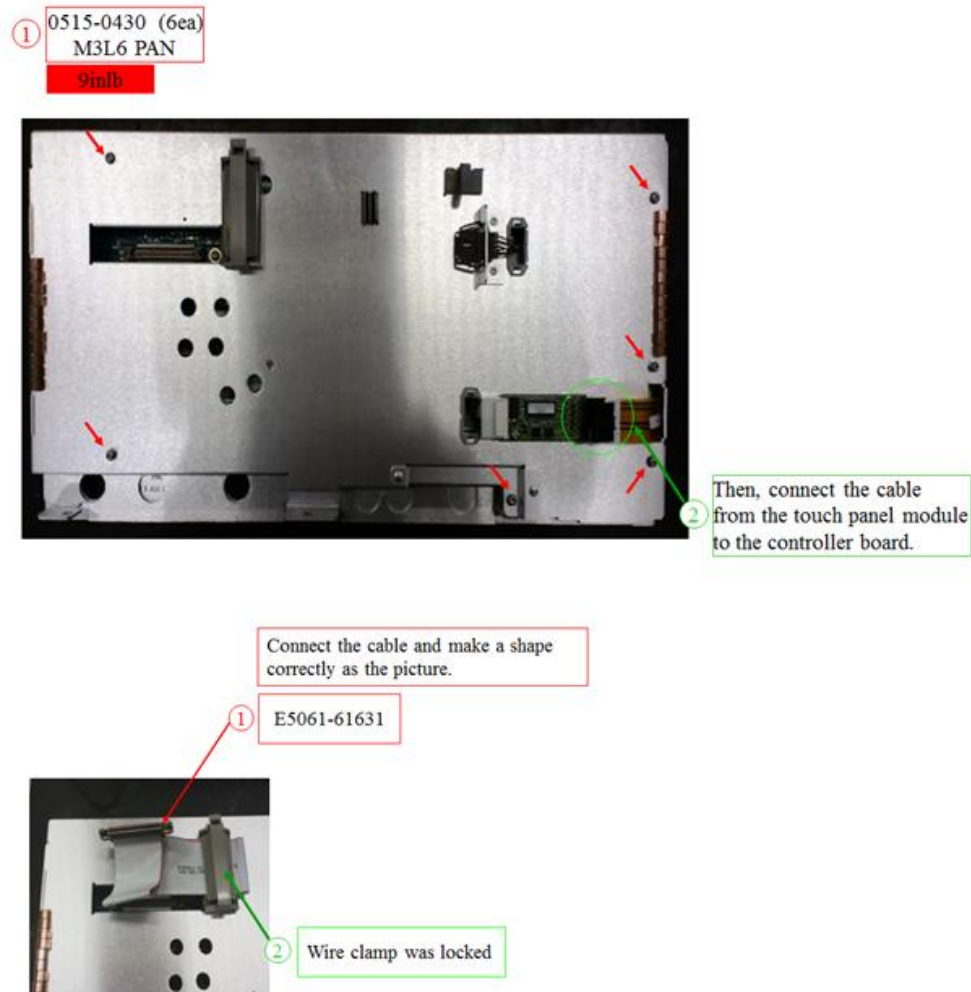

Figure 1-14
13. Shown would be the completed installation of the assemblies. Kindly ensure the connections of the cable assemblies are good and properly secured. Fasten the six screws in securing the shield (back cover) to the Front Panel Assembly. Refer to figure 1-14 for details.